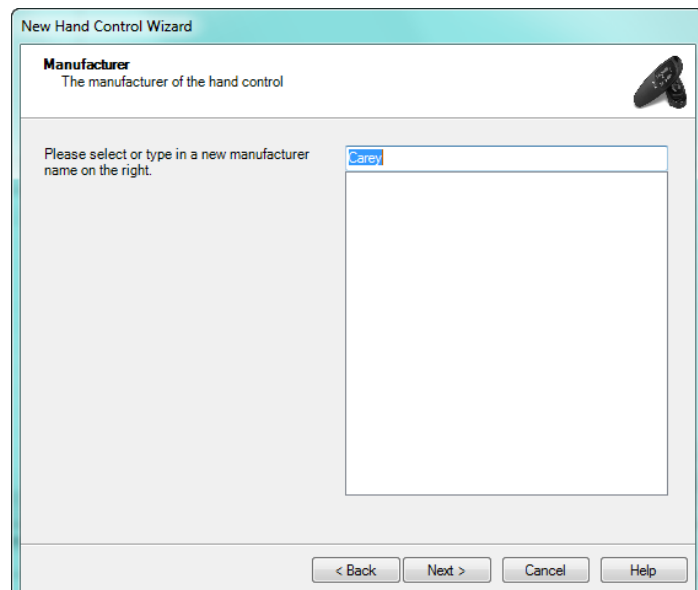

FIG. 14 New Hand Control Wizard - Manufacturer dialog
2. Click **Next** to proceed to the *Manufacturer* dialog (FIG. 14):